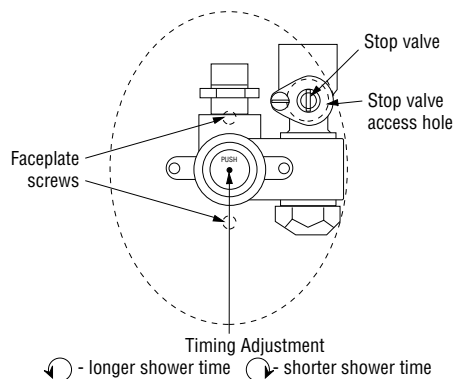

Figure 5.
12. To adjust, insert the the 3/32" allen wrench into the small hole in the center of the pushbutton (see Figure 5). Inside the hole is the metering cycle timing needle.
To access the stop valve, refer to Figure 5. Remove the two faceplate screws, then slide the faceplate over the valve. A small hole in the shrouding allows access to the stop valve. To close, turn the adjustment screw fully clockwise. To open, turn the adjustment screw fully counterclockwise.